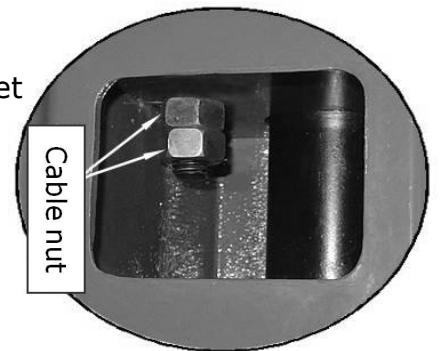

Fig. 42
1. Adjustment of sync cable (See Fig. 42)